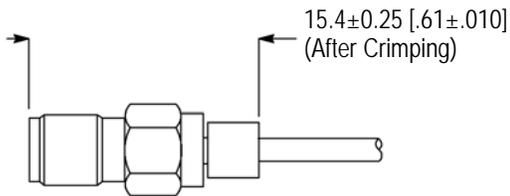

Figure 4
5. Remove the jack assembly from the crimp tool, and inspect the crimp according to Figure 4.